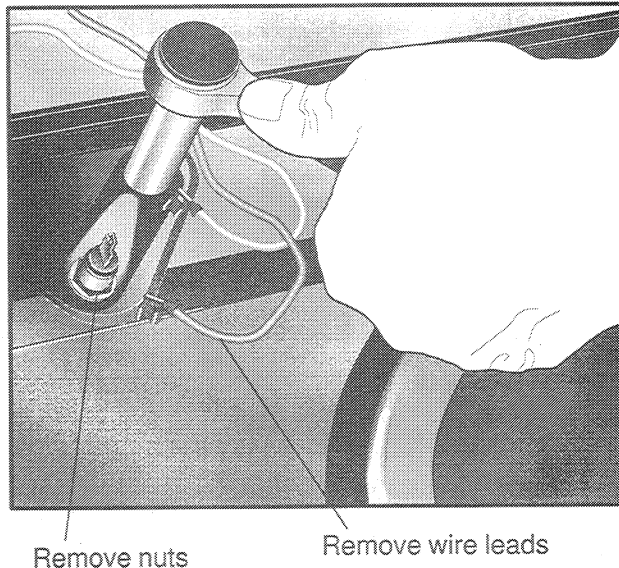

Figure 12
4. Remove electrical leads to heater. (See Figure 12.)
5. Remove hex nuts securing the heater element to the bottom of the tub. (See Figure 12.)